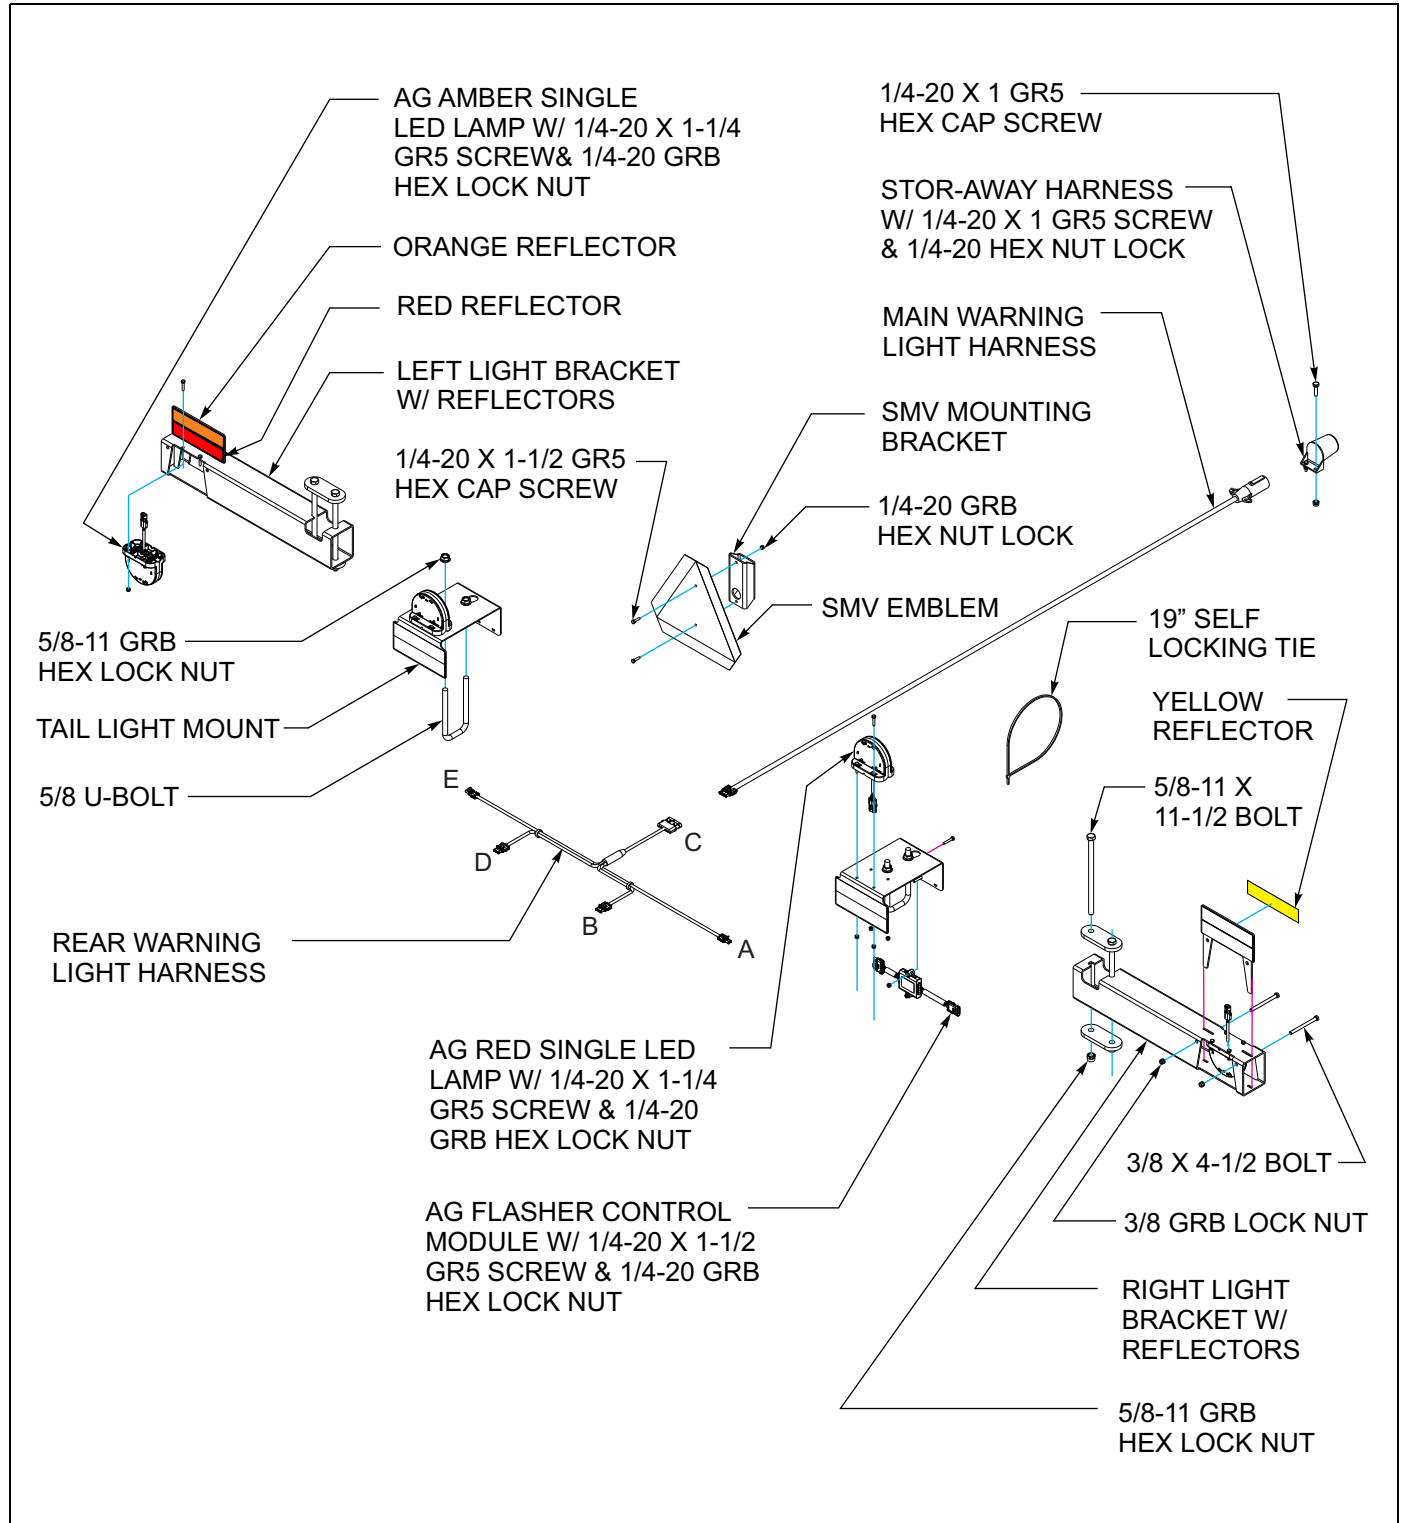

Figure 3-5: LED & SMV Bracket Installation
1. Assemble the SMV to the SMV bracket using 1/4 x 1 bolts and locknuts (See Figure 3-5.)